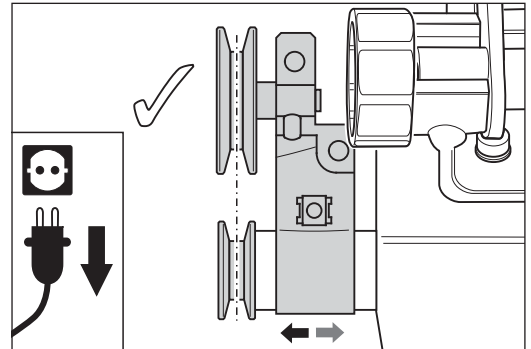
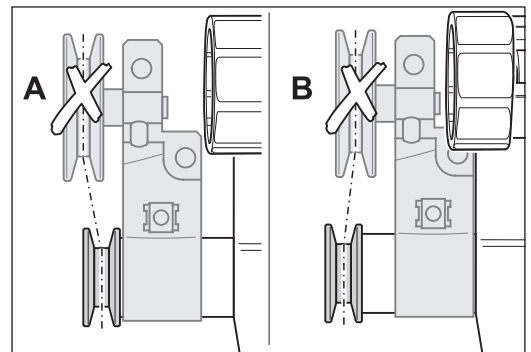

Fig. 64 Orient the belt tensioner to the fan pulley.
Fig. 65 Avoid position A and B of the belt tensioner! Otherwise the wearing of the pulleys and the V-belt increase extensive!
**Orient the belt tensioner to the fan pulley (Fig. 64)! The position A or B of the belt tensioner in Fig. 65 increase the wearing of pulleys and V-belt extensive!**